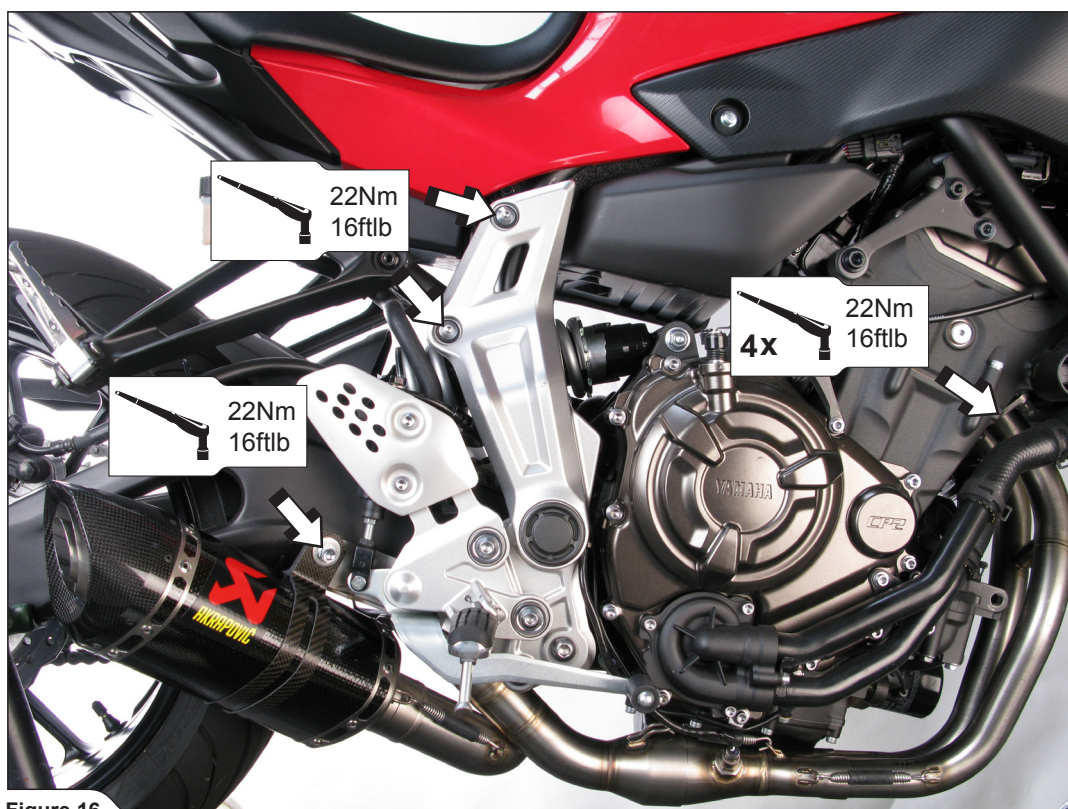

Figure 16
7. Reinstall and tighten stock plastic shield using stock bolts with specified torque. Align the muffler in respect to the swing arm, tighten the clamp's bolt, and tighten the header's flanges to the specified torque (Figure 16).